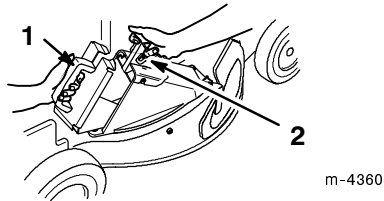

Figure 52
3. Open the discharge door by moving handle rearward (Fig. 52) and hold it open while inserting the plug.